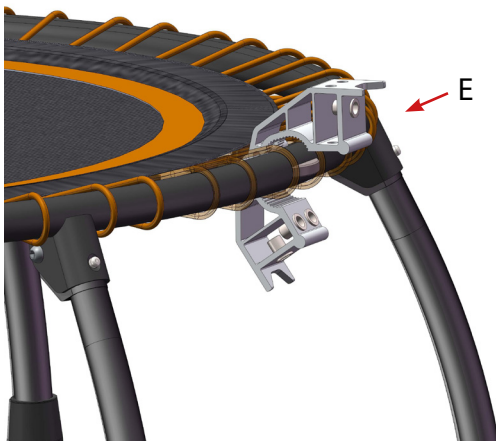
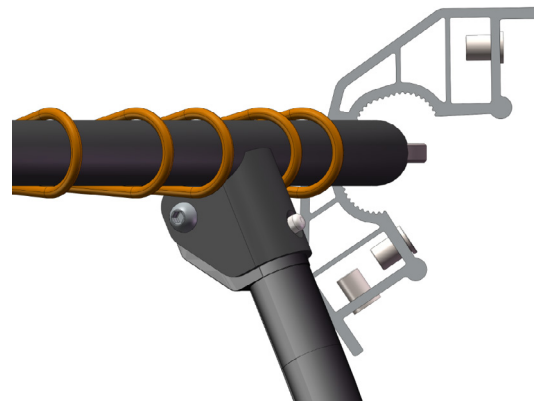

Fig. 5
Fig. 6
1. Place the clamp (E) between two legs on the frame of the trampoline (see fig. 5 and fig. 6).